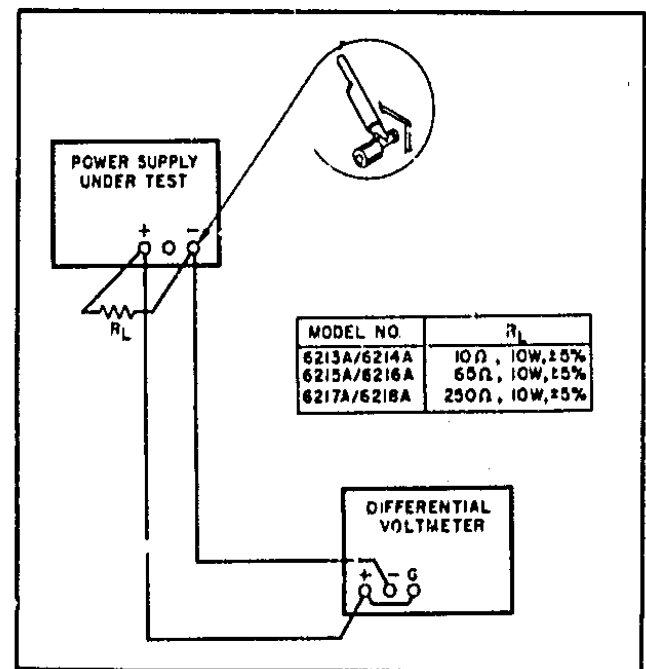

Figure 5-3. CV Load Regulation, Test Setup
- Connect load resistor (R_L), indicated in Figure 5-3, across the output terminals of supply.
- Connect test setup as shown in Figure 5-3.
- Connect test setup shown in Figure 5-3.
a. Connect the load resistance, attenuator, and differential voltmeter as illustrated in Figure 5-3.